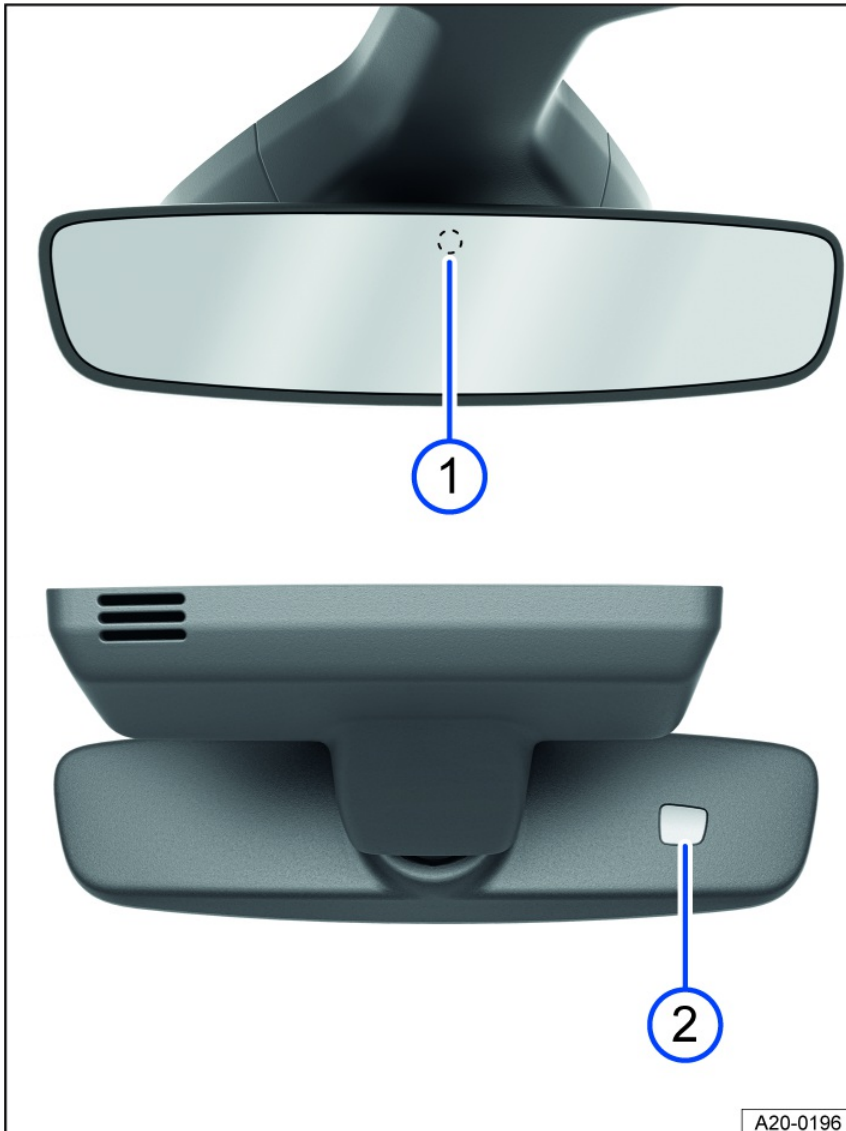

Fig. 99 On the windshield: automatic dimming interior rearview mirror.
When the ignition is on, the sensors measure the amount of light entering from the rear fig. 99 ① and from the front ②.